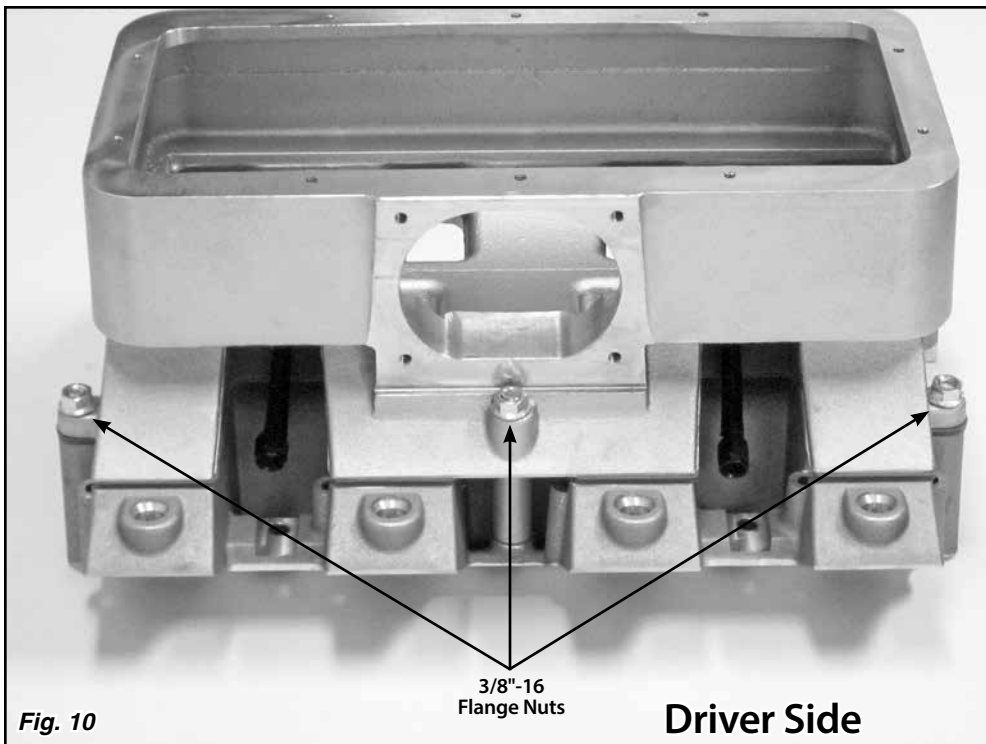

Fig. 10
Step 9: Install the six 3/8"-16 flange nuts (9/16" wrench size) onto the manifold. Tighten the two center nuts to 20 lb.-ft. Then, tighten the corners in a crisscross pattern to 20 lb.-ft. **Figs. 10 and 11**